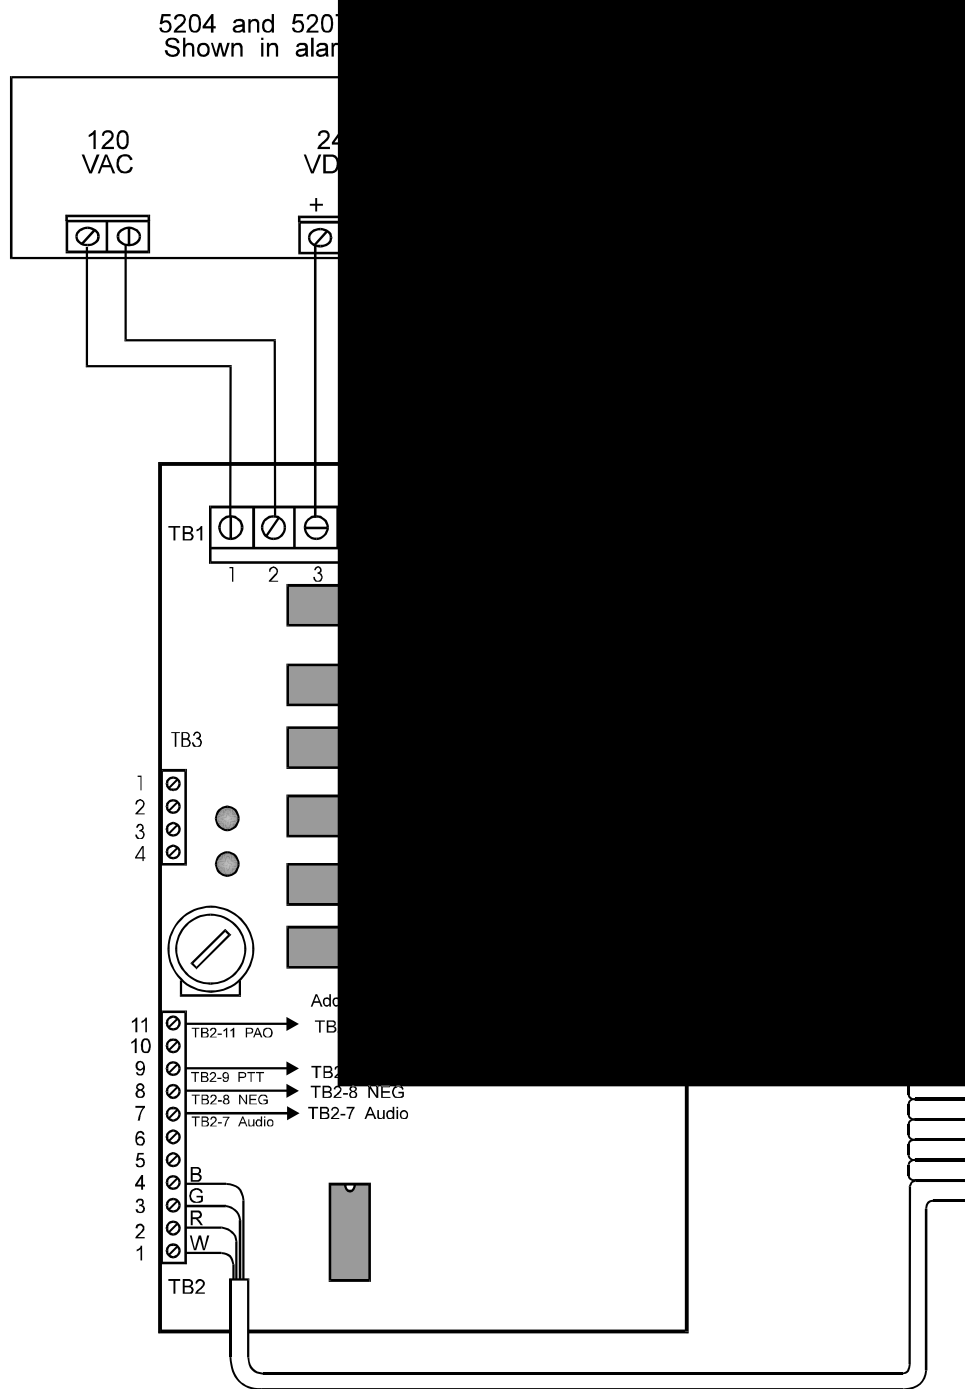

Figure 3.4.4-A: SKE-360/380 Connection to 5204/5207
3. Connect a 24 VDC reversing bell circuit from the 5204/5207 to the bell circuit terminals located in the SKE-360/380 cabinet. Observe polarity as shown in Figure 3.4.4-A.